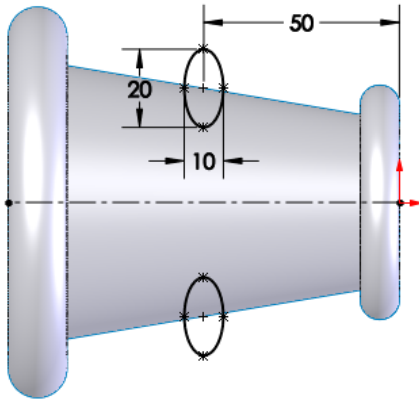

Figure 1-121 Sketch of the second surface feature
2. Create the sketch of the second surface feature, as shown in Figure 1-121. Note that you may have to apply the Horizontal or Vertical relation between the points of the ellipse to constrain them. Also, the centre point of the ellipse should coincide with the edge of the surface.